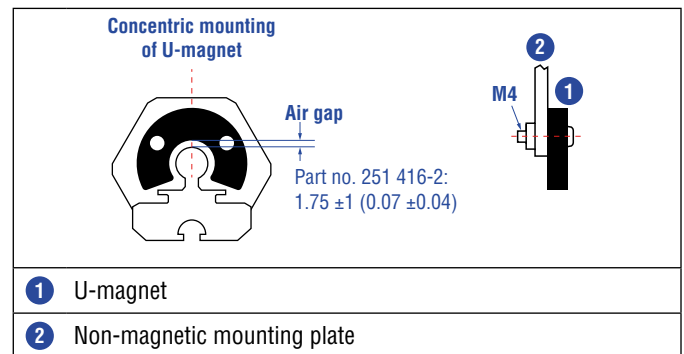
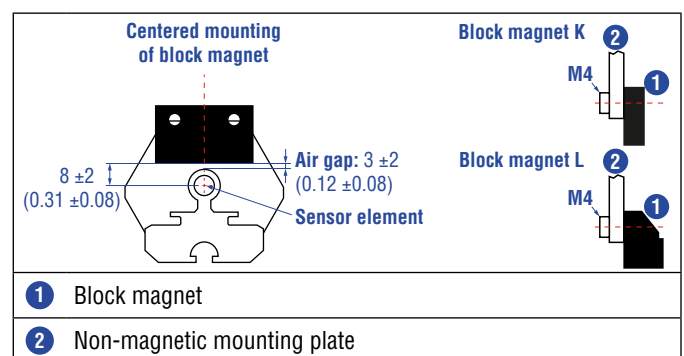

Fig. 46: Mounting of U-magnet (part no. 251 416-2)
Fig. 47: Mounting of block magnet (part no. 403 448)
- The maximum permissible air gap must not be exceeded (Fig. 46/ Fig. 47). Take care to mount the primary sensor axis in parallel to the magnet path in order to avoid damage to the carriage, magnet and sensor rod/sensor profile.